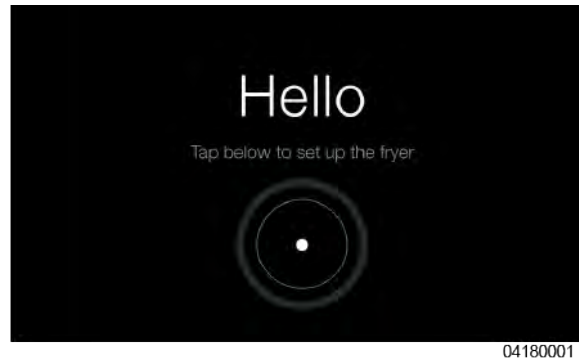

Figure 3-1
- 2) Tap the pulsing circle on the control screen to get started, refer to Figure 3-1, page 12.